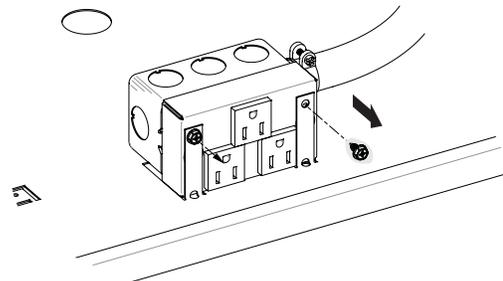

Figure 4
6. Unscrew the junction box from the locating tabs so that it can be moved rearwards and plug in the blower cord. **See Figures 4 and 5.**